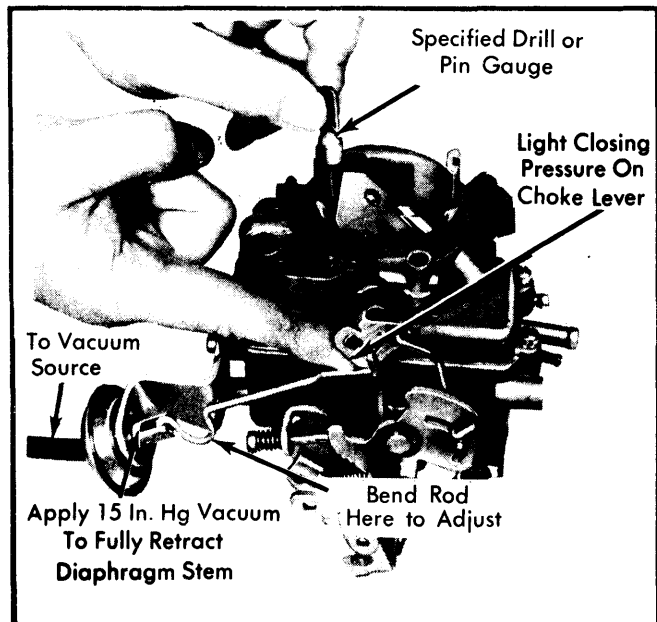

Fig. 5 Adjusting Choke Vacuum Break
1) Open throttle and close choke. Now close throttle to trap fast idle cam in closed choke position. See Fig. 5.